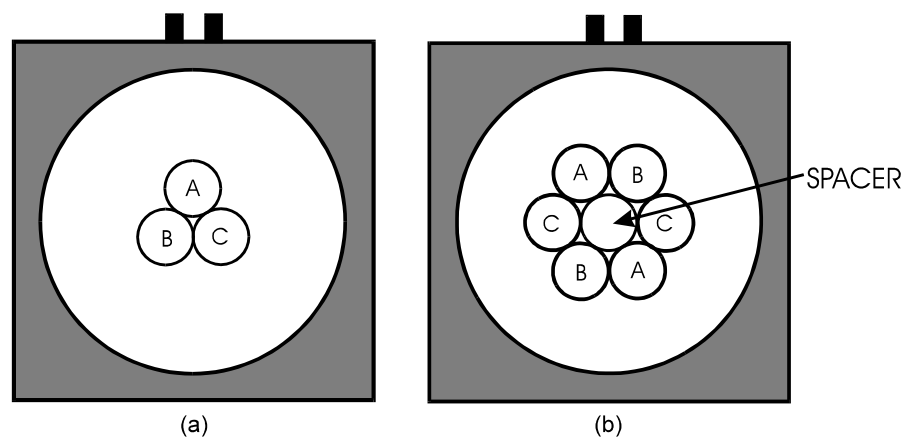

FIGURE 1
An ideal window-type current transformer responds only to the sum of the currents flowing through its window; however, an actual current transformer may saturate if the phase currents are too large. This results in current transformer output even if the sum of the phase currents is zero. Saturation can be minimized by choosing a current transformer (CT) with an adequate core and symmetrically locating the phase conductors in the center of the CT window as shown in Figure 1.